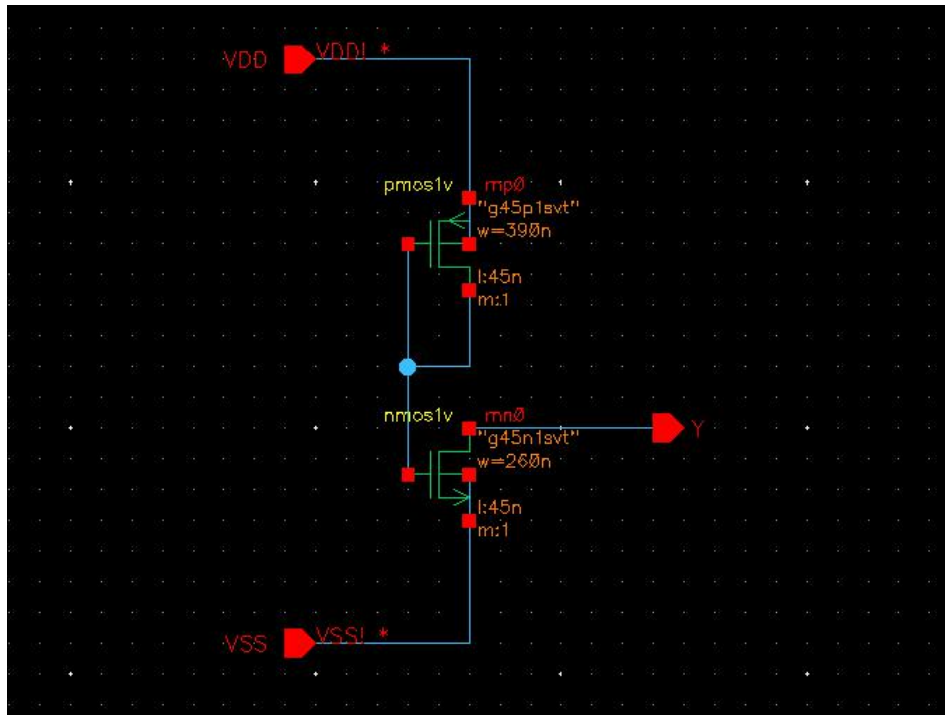

Figure 1 TIELO pull-down cell
- a. A TIELO pull-down cell (library cell `FML_TIELO`); see Figure 1